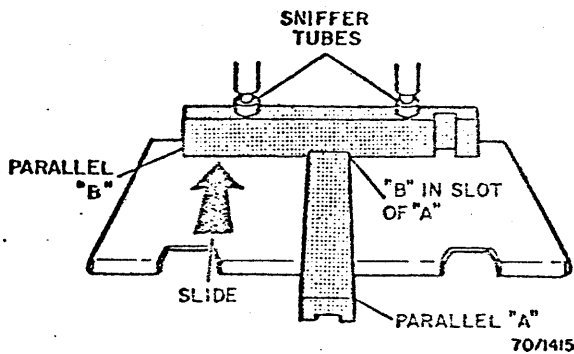

Fig. 3-81. Parallel Bars in Correct Tray Height Position
8. Lower the sniffers to the maximum down position. Place parallel B in the slot of parallel A and slide the parallel bars under the sniffers (Fig. 3-81). Clearance between sniffer tubes and parallel B should not exceed 0.015.